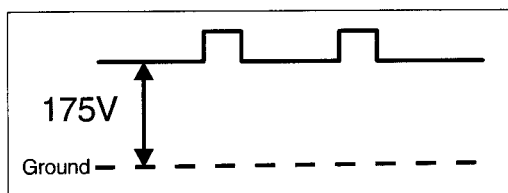

figure 2.5A
4. Adjust the **SCREEN** control on the Flyback Transformer to give a voltage of 175V as shown in figure 2.5A.